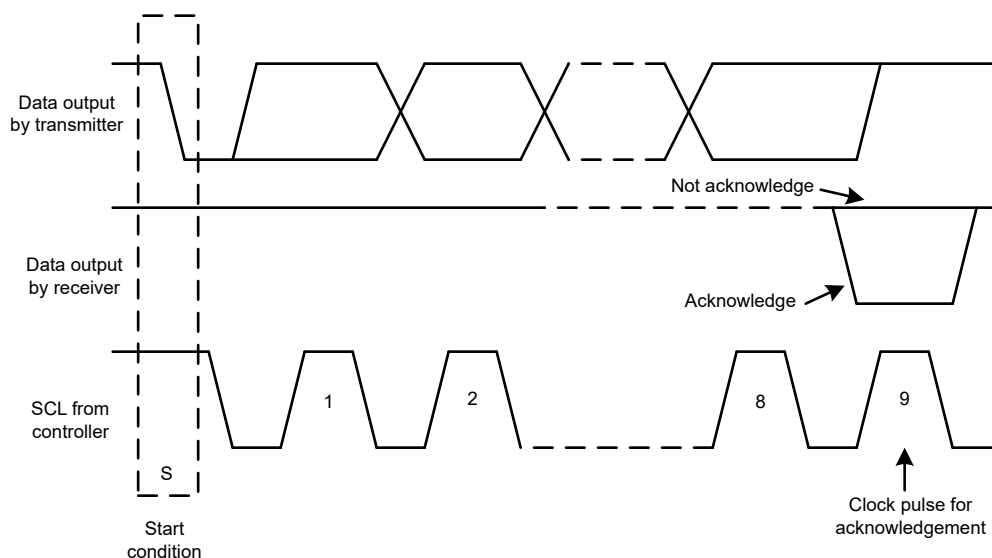
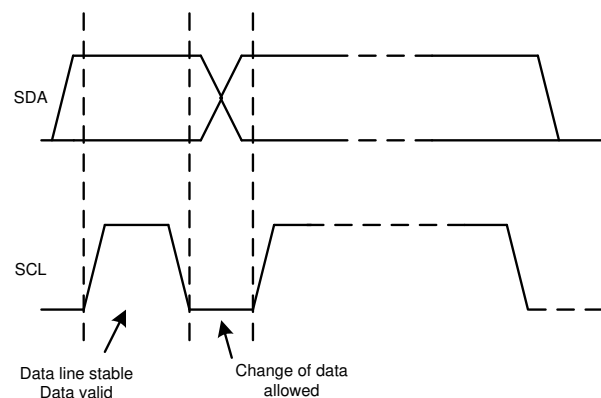

Figure 7-20. Acknowledge and Not Acknowledge on the I²C Bus
Figure 7-22. Bit Transfer on the I²C Bus
Other than specific timing signals, the I²C interface works with serial bytes. At the end of each byte, a ninth clock cycle generates and detects an acknowledge signal. An acknowledge is when the SDA line is pulled low during the high period of the ninth clock cycle. A not-acknowledge is when the SDA line is left high during the high period of the ninth clock cycle, as shown in Figure 7-20.
2. The controller then generates the SCL pulses, and transmits the 7-bit address and the read/write direction bit (R/\bar{W}) on the SDA line. During all transmissions, the controller makes sure that data are valid. A valid data condition requires the SDA line to be stable during the entire high period of the clock pulse, as shown in Figure 7-22. All devices recognize the address sent by the controller and compare the address to the respective internal fixed address. Only the target device with a matching address generates an acknowledge by pulling the SDA line low during the entire high period of the 9th SCL cycle, as shown in Figure 7-20. When the controller detects this acknowledge, the communication link with a target has been established.